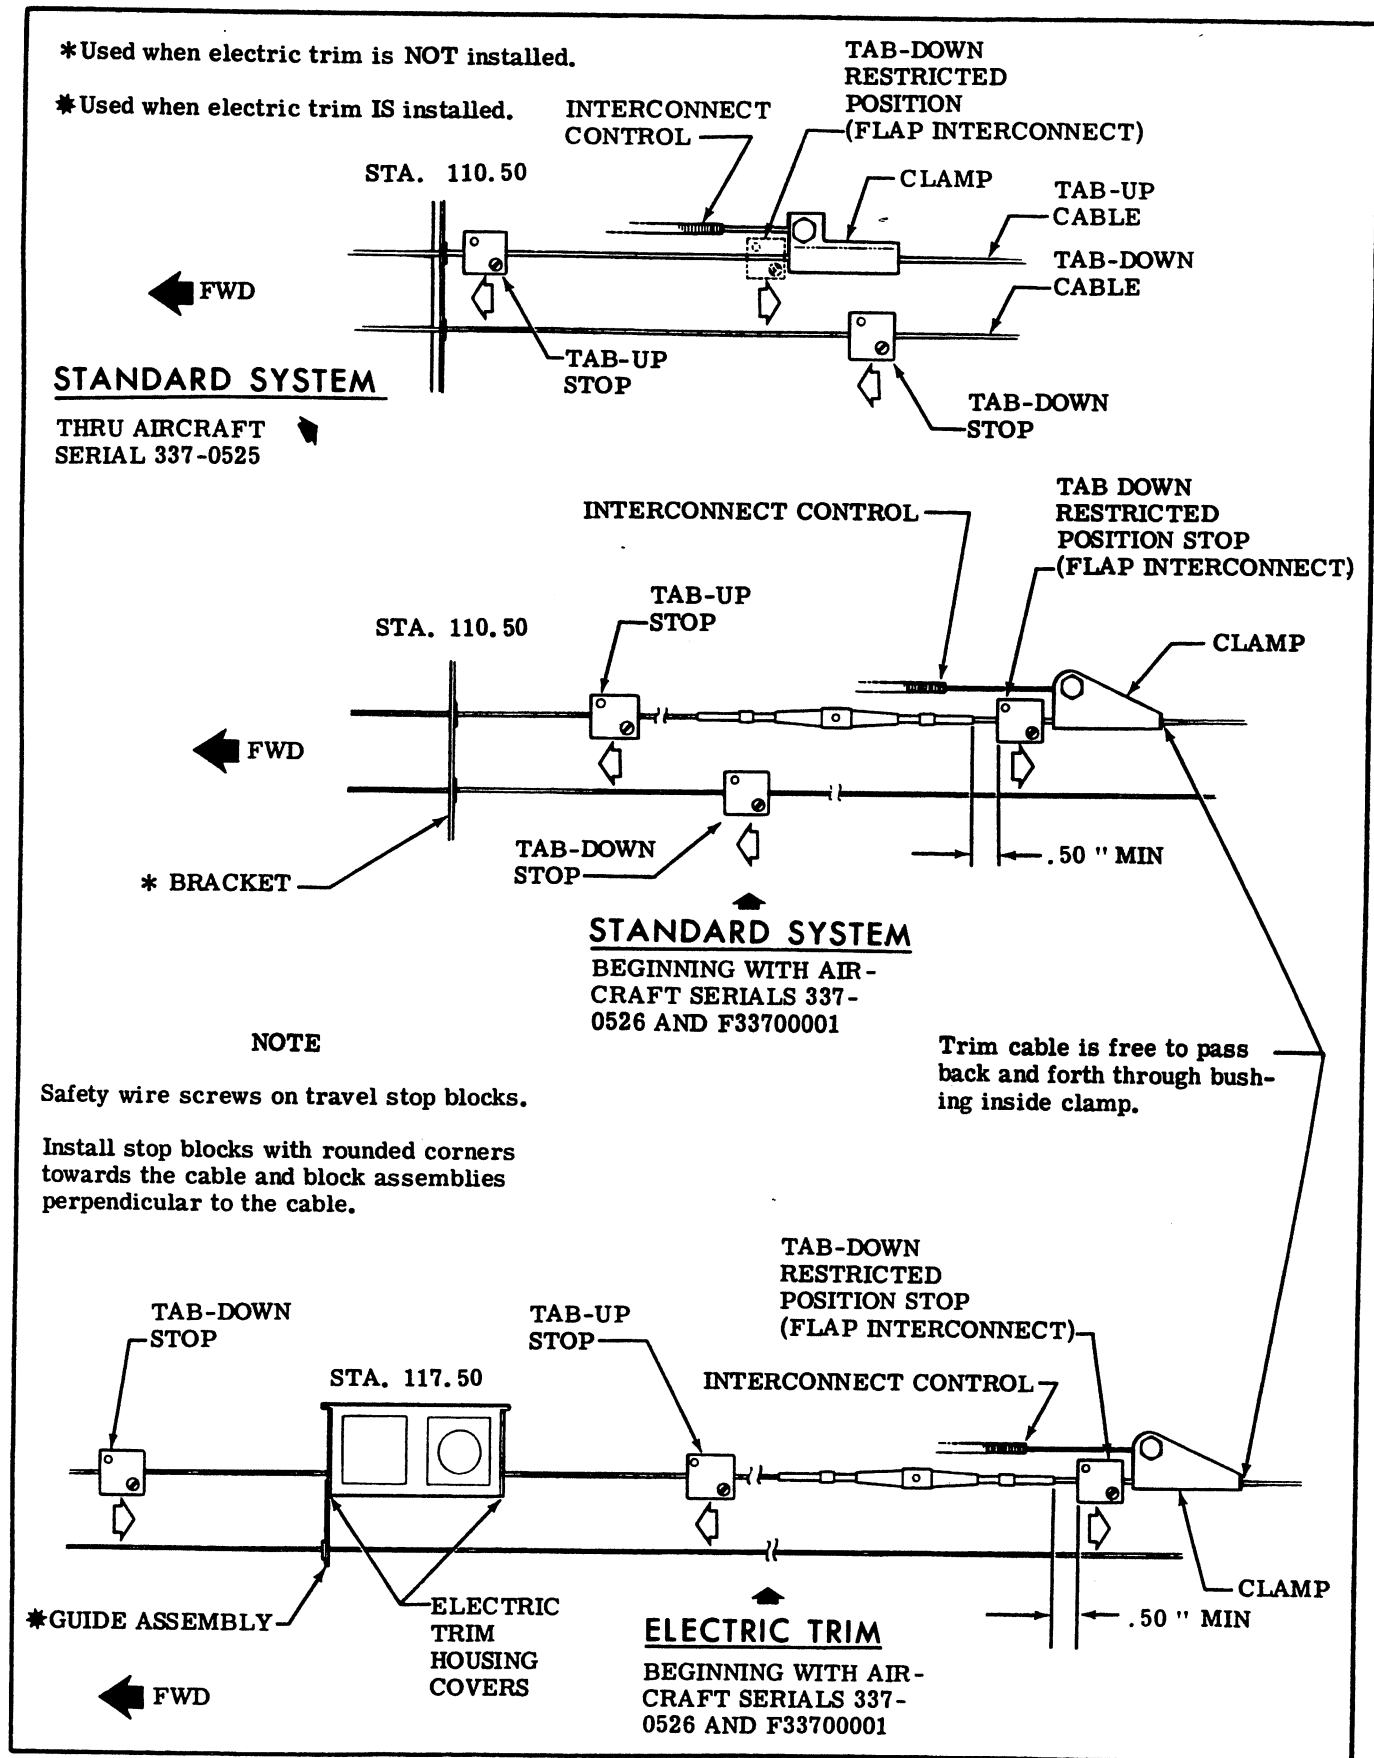

Figure 8-9. Elevator Trim Travel Stops
j. (Refer to figure 8-9.) Rotate trim wheel to position tab at specified UP travel, slide tab up-stop block on cable against stop bracket, secure stop and safety wire screws.